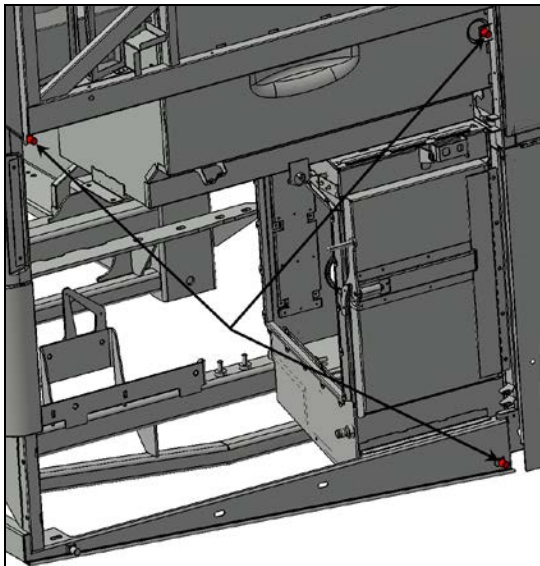
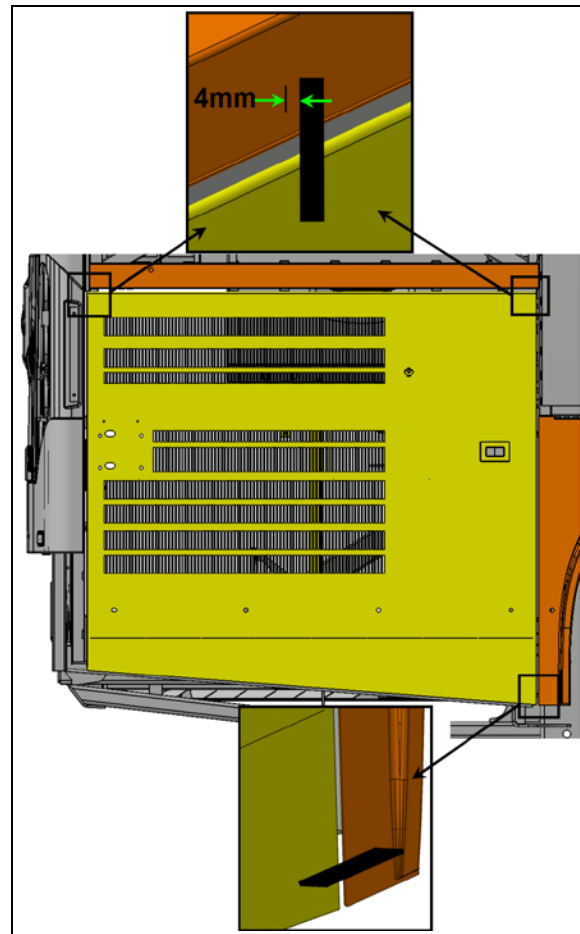

FIGURE 62
FIGURE 63
19. Screw in or out the two upper stoppers so that the upper part of the door exceeds the horizontal member by $5/32"$ to $3/16"$ (4mm to 5mm) (see FIGURE 62 & FIGURE 63).